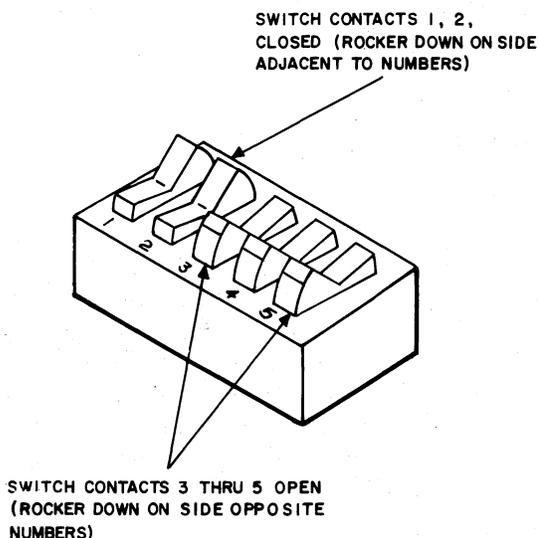

Fig. 3—Details of Option Switch
2.06 Installer options are accomplished by setting the position of individual switches on multiple section rocker assemblies (Fig. 3). In addition two jumper plugs on circuit module CM1 are used for option selection. Refer to Section 598-012-202 for instructions on installing and removing options.